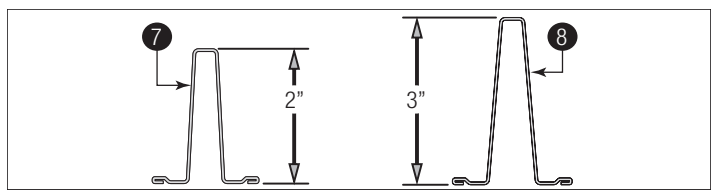

Figure 19
IMPORTANT: Measure the height of your strut(s) to determine if you have 2" Struts ⑦ and or 3" Struts ⑧. See Figure 19.